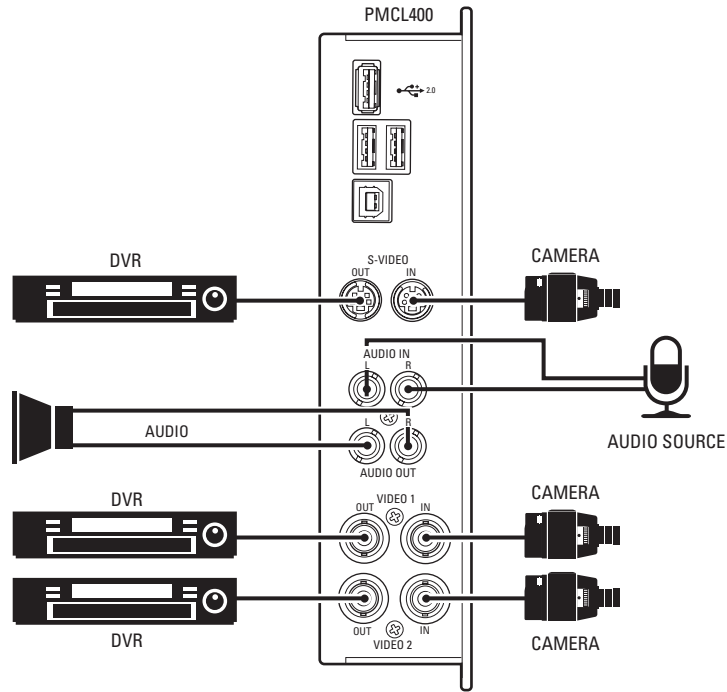
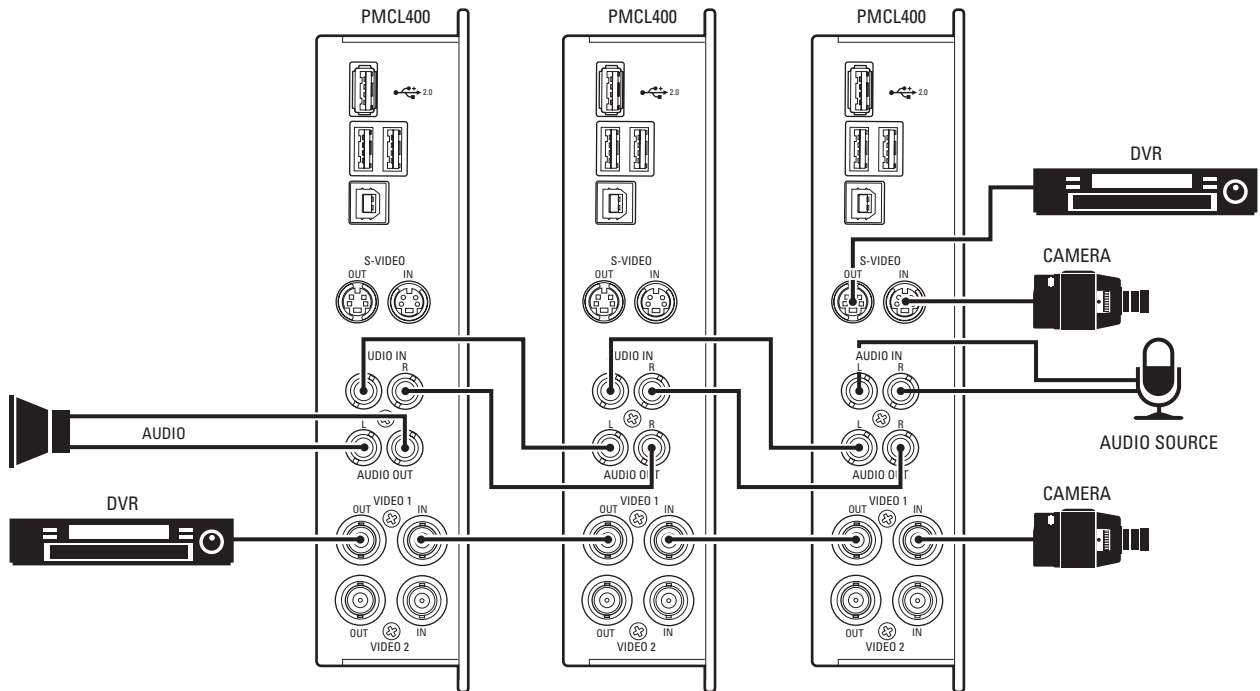

Figure 3. Looping Operation: One Monitor with External Video Equipment
Figure 4. Looping Operation: Maximum of Three Monitors with External Video Equipment
- c. **Looping operation only.** Connect a video cable to the BNC video connector labeled VIDEO 1 OUT for composite video or connect the video cable to the connector labeled S-VIDEO OUT for S-Video. If the installation requires a second composite video output, connect a video cable to the BNC video output labeled VIDEO 2 OUT. Refer to Figure 3 and Figure 4.
4. Connect audio, as desired. The monitor has built-in speakers but can also loop out to an external speaker. Connect the audio input cables to the connections labeled AUDIO IN on the back panel of the monitor. Connect one end of the audio output cables to the connections labeled AUDIO OUT on the back panel of the monitor and the other end to a speaker. Refer to Figure 3 and Figure 4 for looping connections.